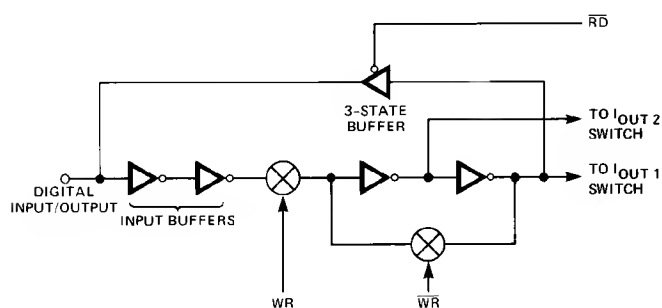

Figure 5. Digital Input/Output Structure
Figure 5 shows the digital input/output structure for one bit. The digital  $\overline{WR}$ ,  $\overline{RD}$ , and  $\overline{DS}$  controls shown in the figure are internally generated from the external  $A/\overline{B}$ ,  $R/\overline{W}$ ,  $\overline{DS1}$ , and  $\overline{DS2}$  signals. The combination of these signals decide which DAC is selected. The digital inputs are CMOS inverters, designed such that TTL input levels (2.4 V and 0.8 V) are converted into CMOS logic levels. When the digital input is in the region of 1.2 V to 1.8 V, the input stages operate in their linear region and draw current from the +5 V supply (see Typical Supply Current vs. Logic Level curve on page 6). It is recommended that the digital input voltages be as close to  $V_{DD}$  and GND as is practical in order to minimize supply currents. This allows maximum savings in power dissipation inherent with CMOS devices. The three-state readback digital output drivers (in the active mode) provide TTL-compatible digital outputs with a fan-out of one TTL load. The three state digital readback leakage-current is typically 5 nA.
**General Ground Management:** AC or transient voltages between AGND and DGND can appear as noise at the DAC8408's analog output. Note that in Figures 5 and 6, IOUT2A/IOUT2B and IOUT2C/IOUT2D are connected to AGND. Therefore, it is recommended that AGND and DGND be tied together at the DAC8408 socket. In systems where AGND and DGND are tied together on the backplane, two diodes (1N914 or equivalent) should be connected in inverse parallel between AGND and DGND.